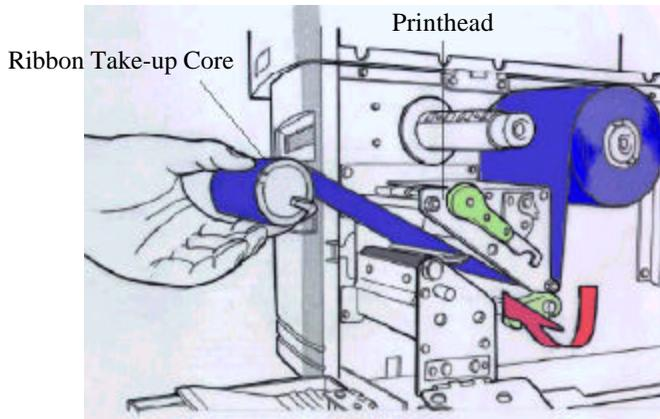

Figure 13 - Ribbon Installing
- Important:** Route ribbon as shown in the Ribbon Routing (Figure 13) before attaching it to the Ribbon Take-Up core using tape or adhesive leader.